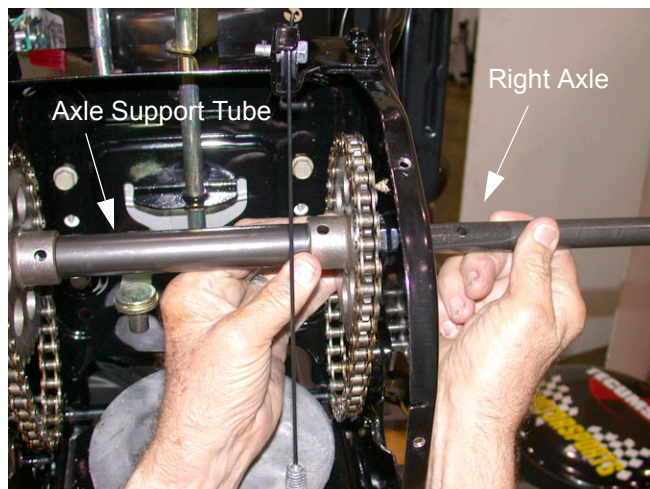

Figure 33
- 13.7. Slide the right axle to the right and remove the gear, shim washer and hex flange bearing from the axle as you remove it. See Figure 33.